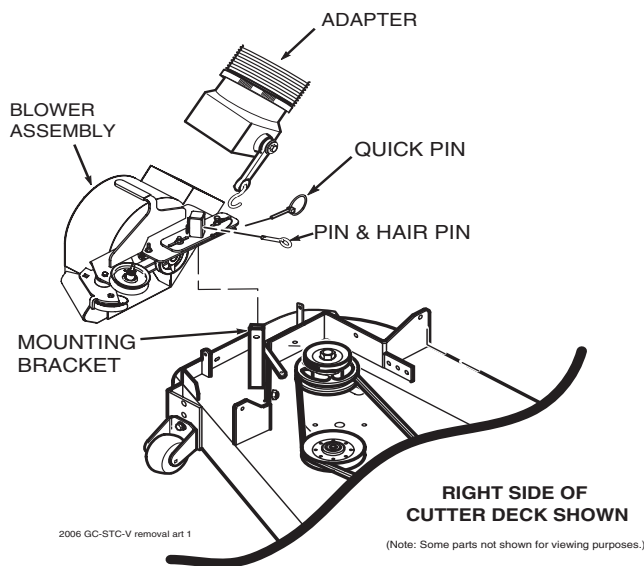

Figure 3-1. Removing the Blower Assembly
1. Remove the rubber strap holding the adapter to the blower assembly and the large quick pin securing the blower to the discharge mounting bracket. See Figure 3-1.
2. Remove the belt, pin, hair pin and large quick pin securing the blower assembly to the cutter deck and remove the blower assembly. See Figure 3-1.